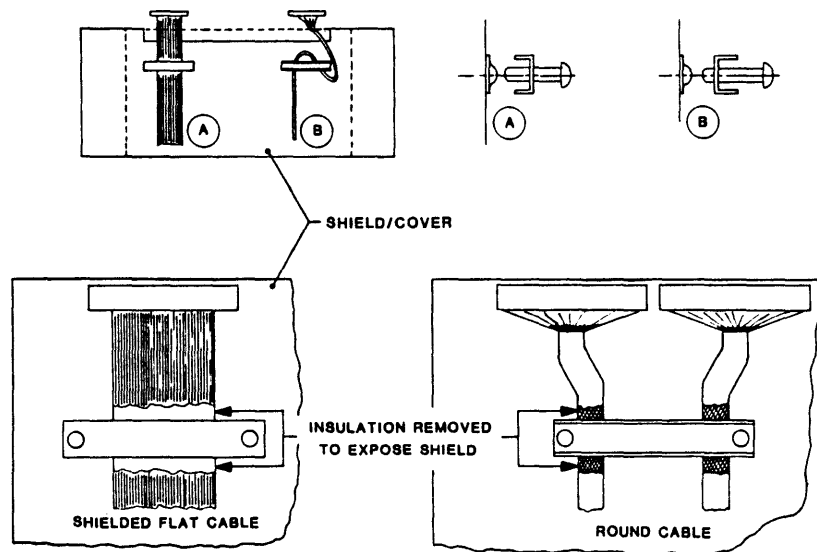
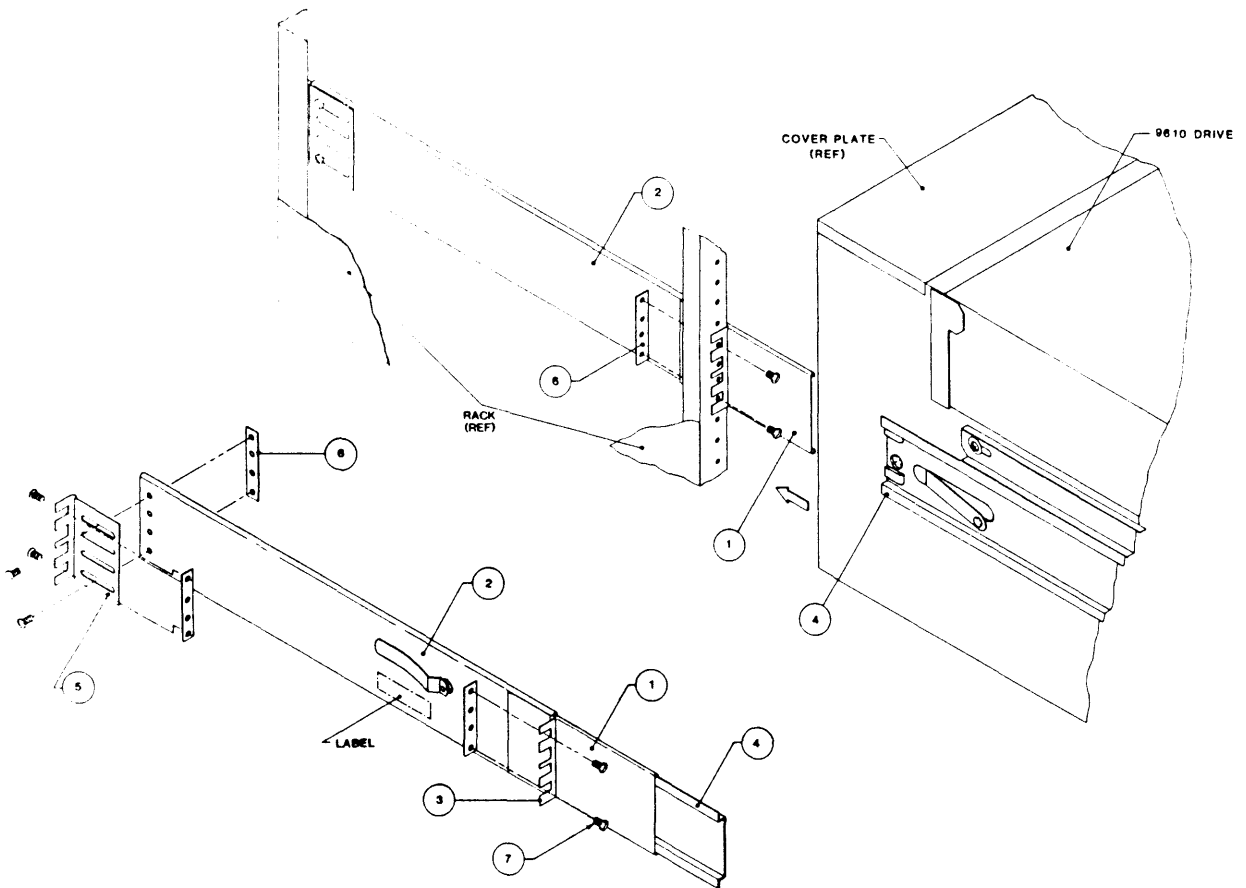

Figure 2-3. Grounding Cable Clamp Details
Figure 2-8. Track Subassembly
Recommended connectors and cables are as follows: - Daisy chains may optionally require a Cable Connector Adapter (See Figures 2-3 and 2-5).
- A. Install one of the Track Assemblies (Figure 2-8) on either side of the 19-inch Rack as follows:
1. Using the 10-32 Slotted Screws (7) and Nut Plates (6)* provided, loosely assemble an Adjustable Mounting Bracket (5) to the rear of the Right Track Assembly.
3. Aligning the bottom of the Fixed Mounting Bracket (3) at the 2-inch mark on the front of the 19-inch Rack, and using the 10-32 Screws (7) provided, mount the Fixed Mounting Bracket (3) to the front of the 19-inch Rack, and mount the Adjustable Mounting Bracket (5) (loosely attached to the rear of the Center Track) to corresponding holes in the the rear of the 19-inch Rack. Level the Track and tighten all Screws.
- E. Remove about an inch of insulation from each Interface Cable at a point where the Cable will pass under the Grounding Cable Clamp(s). This will expose the cable shield. Run the Interface Cables under the Cable Clamp(s) as illustrated in Figure 2-3. Tighten the Clamp(s).